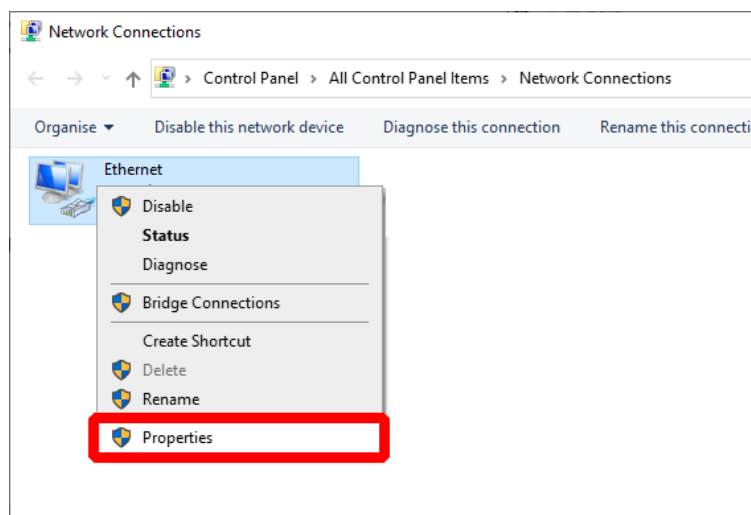

Fig. 4-3 Network Connections screen
- The **Network Connections** screen is displayed. See Fig. 4-3 below.